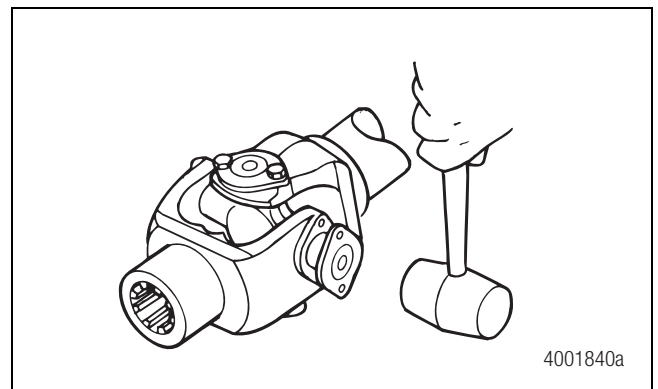

Figure 4.7
3. Hold the cross. Use a copper or brass hammer to lightly tap the bearing cup completely into the yoke bore. Figure 4.7.